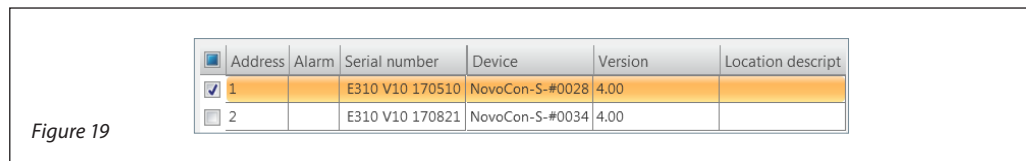

Figure 19
I. Select the NovoCon(s) in which you want to import the CSV file (figure 19).